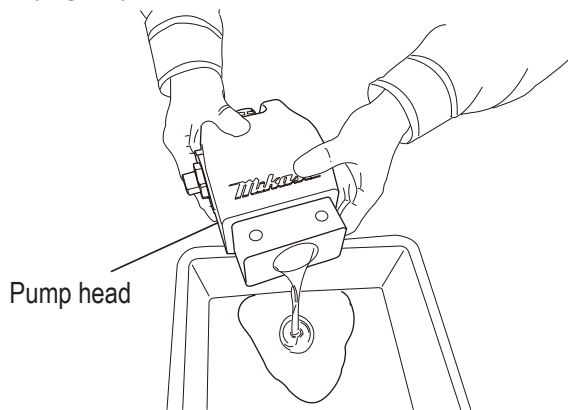

Fig.22
(1) Disassembly
- a. Drain the hydraulic oil in the pump head. (Fig.22)